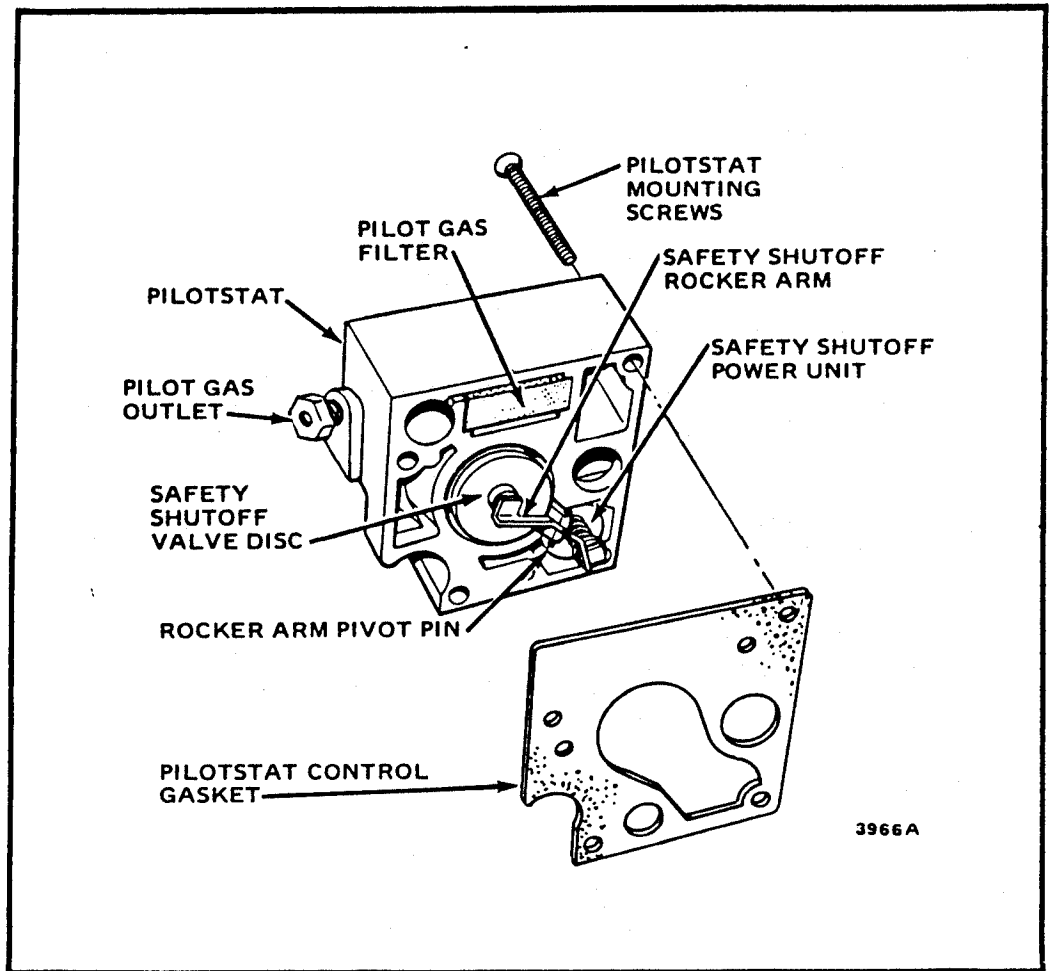

Fig. 37—Typical Pilotstat gas-cock assembly.
2. Remove the screws holding the Pilotstat gas-cock assembly in place and lift it off (Fig. 37).